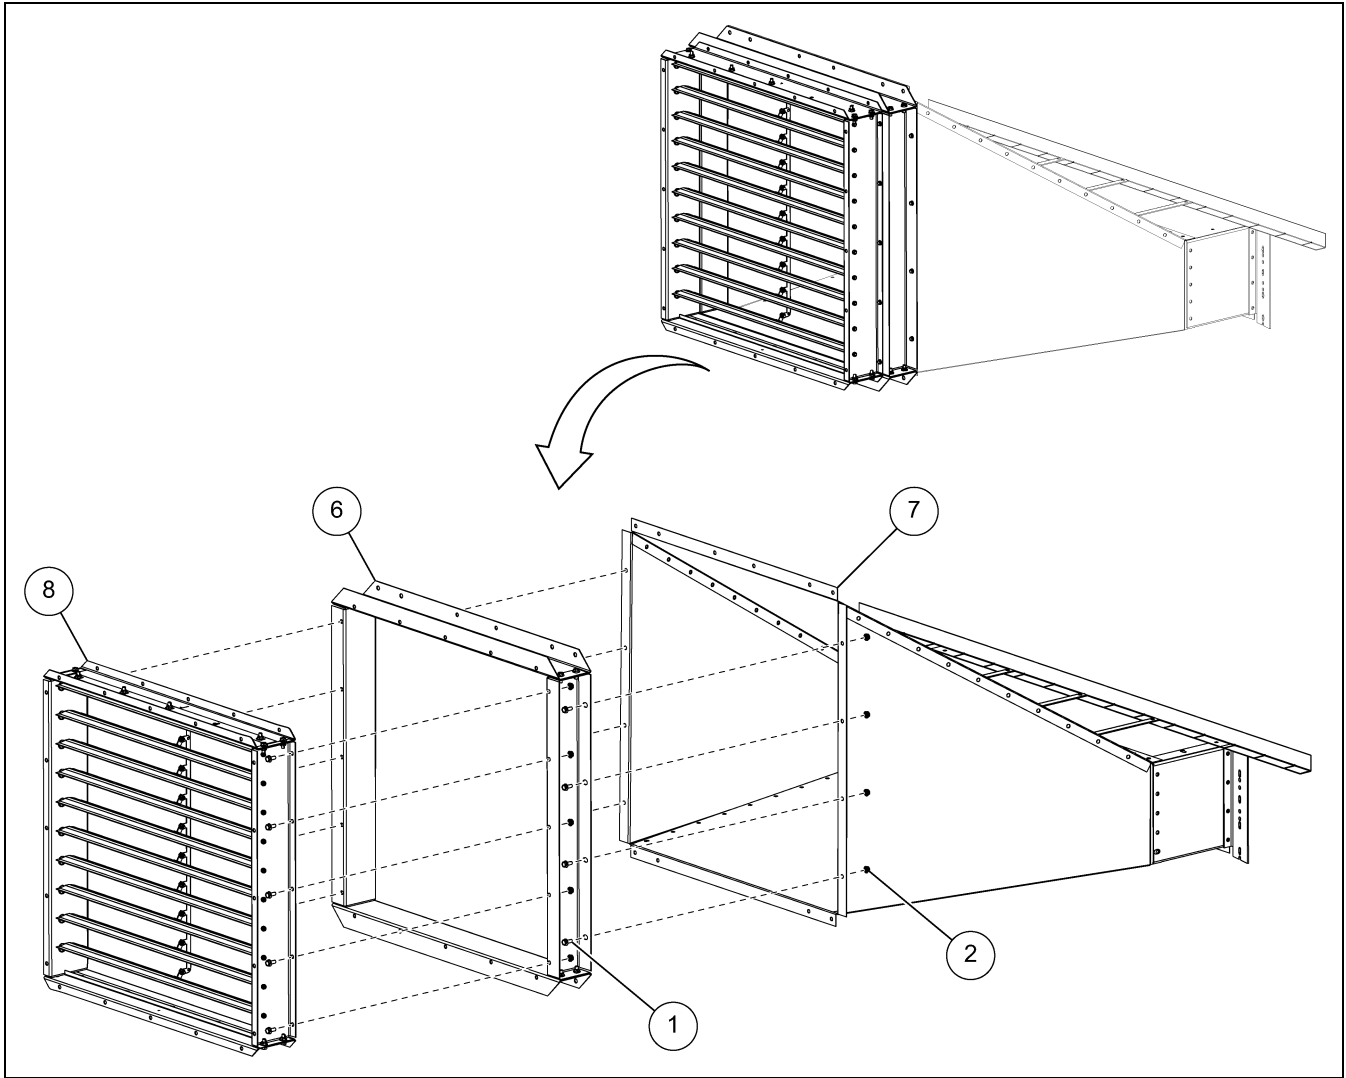

Figure 3 Assembling the Adapter and Shutter Assembly to the Transition Assembly
1. Align the flanges of the adapter assembly (6) with the flanges of the transition assembly (7) and install using 5/16" x 3/4" flange bolts (1) and 5/16" flange nuts (2).
2. Align the flanges of the shutter assembly (8) with the flanges of the adapter assembly (6) and install using 5/16" x 3/4" flange bolts (1) and 5/16" flange nuts (2). (See Figure 3.)